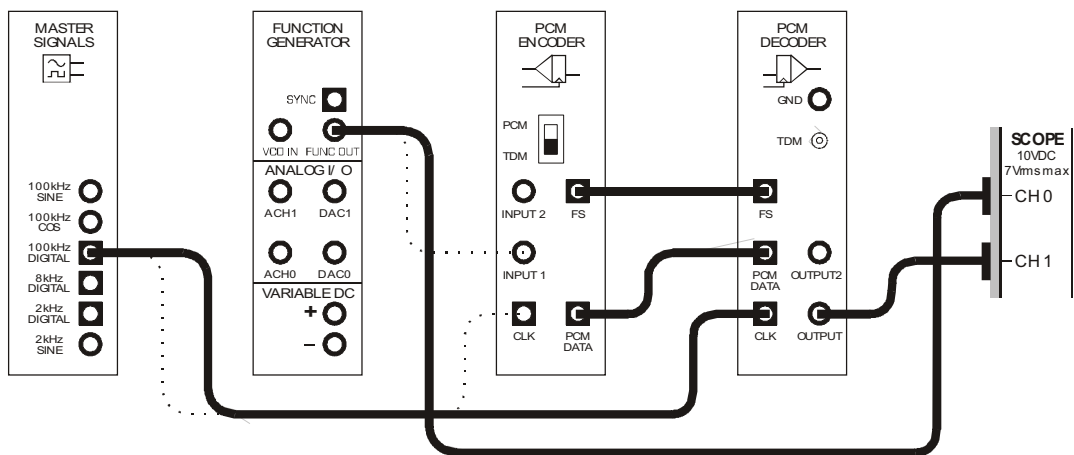

Figure 5
24. Modify the set-up as shown in Figure 5 below.